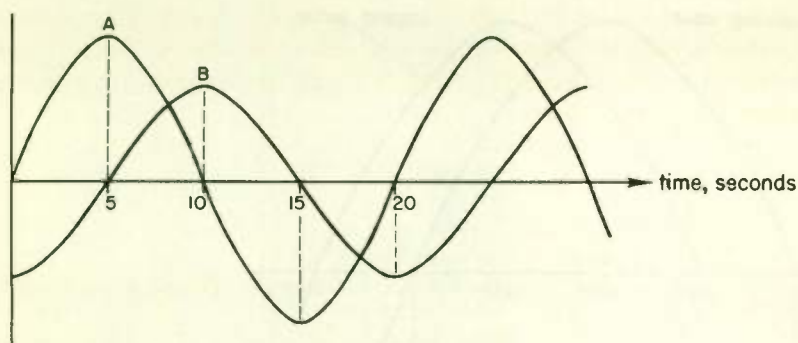

Fig. 11 Two sine waves out of phase.
Figure 11 shows two sine waves plotted on the same graph. Wave A reaches its first positive peak at $t = 5$ sec, while wave B reaches its first positive peak at $t = 10$ sec, 5 sec later. Similarly, the first negative peak of wave A occurs at $t = 15$ sec, while the first negative peak of wave B occurs at $t = 20$ sec, again 5 sec later than the corresponding value of wave A. In fact, the peaks and zeros of wave B occur 5 sec later than the corresponding values of wave A. The two waves A and B are said to be *out of phase* with each other, since the corresponding values of these waves do not occur at the same time.
9 MEASURING PHASE... Referring back to Fig. 11, the peak value of wave A occurs 5 sec before the peak value of wave B. Wave A undergoes the same fluctuation as does wave B, except that they occur 5 sec earlier. Because of this fact, wave A *leads* wave B in time. Note that wave A is leading wave B even though wave B appears to be first on the graph. Alternatively, since fluctuations of wave B occur 5 sec later than those of wave A, wave B is said to *lag* wave A in time.
2. The phase difference between two waves is measured in ^(a) _____. The phase difference between the two waves of Fig. 11 is ^(b) _____ because the peaks of wave A occur when wave B has ^(c) _____ value.